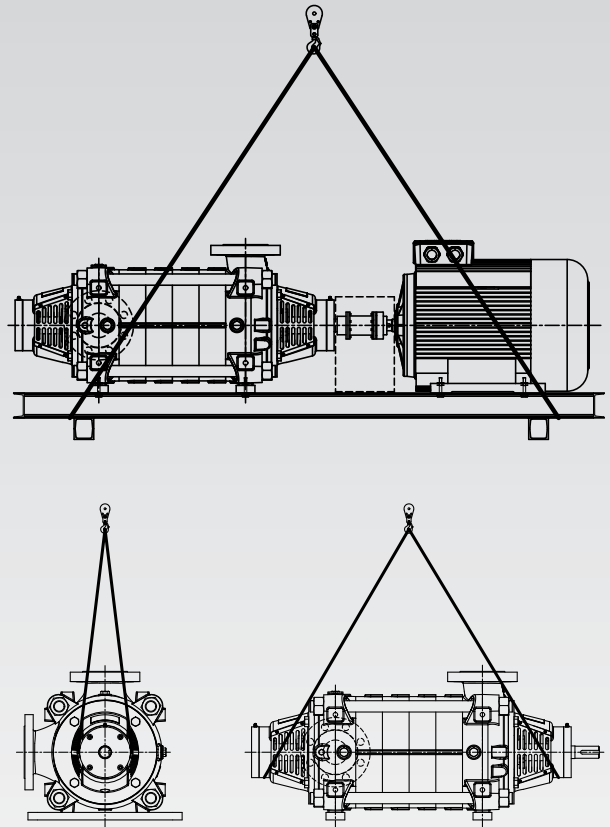

Figure 1
The pump or pump unit must only be transported laterally. During transport, ensure that the pump or pump unit is safely secured and cannot tip over or fall. Figure 1
Do not move the pump, motor, or unit using the shaft end of the pump or motor. Figure 1
- Always secure and transport the pump unit as shown in Figure 1.